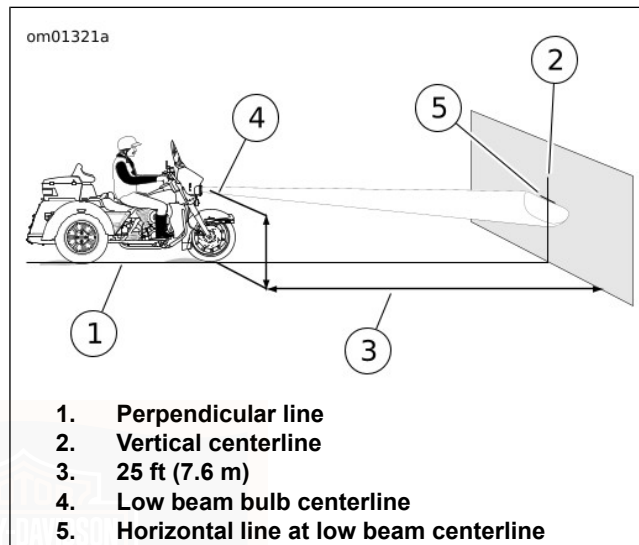
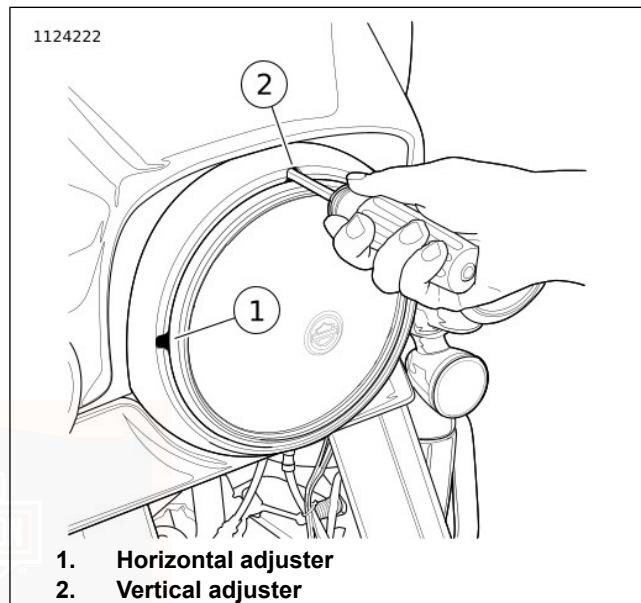

Figure 91. Headlamp Alignment: LED
Figure 92. Headlamp Adjusters: All except Frame-Mounted Fairing (typical)
See Figure 91. Park the motorcycle on a line (1) perpendicular to the wall.
8. See Figure 91. Draw a horizontal line (5) through the vertical line at measured height.
*See Figure 91. The headlamp is aligned when the top of light beam hot spot is located as shown with headlamp set to **low beam**.*
See Figure 91. Verify headlamp alignment.
2. See Figure 92. Insert a 5/32 ball end hex wrench through adjuster slots in trim ring.
- a. **Horizontal:** Turn the horizontal adjusting screw (1) to adjust light beam left and right.
- b. **Vertical:** Turn the vertical adjusting screw (2) to adjust light beam up and down.
3. See Figure 91. Adjust headlamp **low beam** as shown.